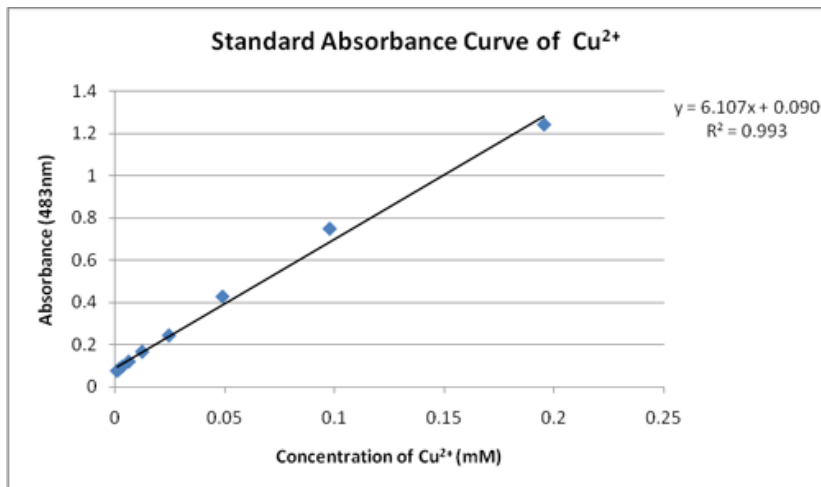

Figure 8: Example Standard Curve
- A standard curve is a graph of the relationship between the concentration of a material of interest and the response of a particular instrument (Figure 8).